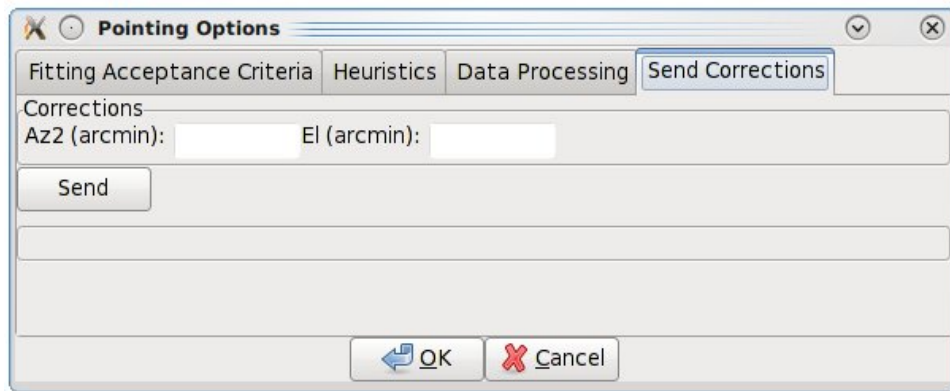

Figure 5.6: The pop-up menu to manually send pointing corrections to the telescope.
Step 6 Enter the corrections in the text box, and click Send to send the solutions to the telescope. (see Figure 5.6).